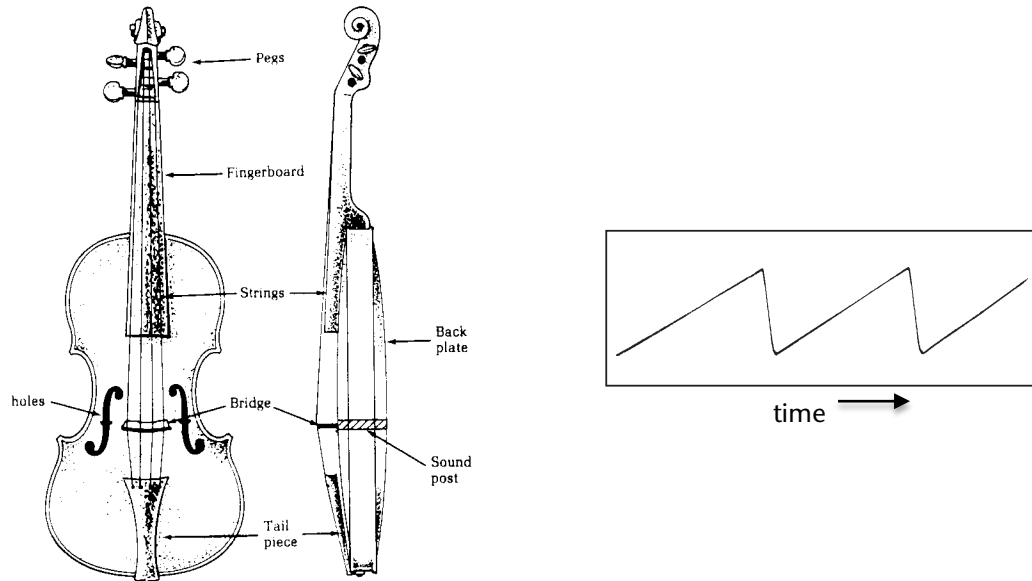

Figure 2
The process of bowing a string results in a waveform similar to a sawtooth which has even and odd harmonics present in decreasing intensity. Figure 2 shows an oscilloscope trace of the motion of a bowed string.
- The violin body has an elegantly shaped hole to the left and right of the strings called the F-holes (Fig. 2). Are these holes for decoration only or do they affect the sound spectrum? To answer the question, compare the Fourier Spectrum with the F-holes open and taped shut. It will be useful to do this when you play a relatively low note and a higher note. Can you hear a difference in tone?